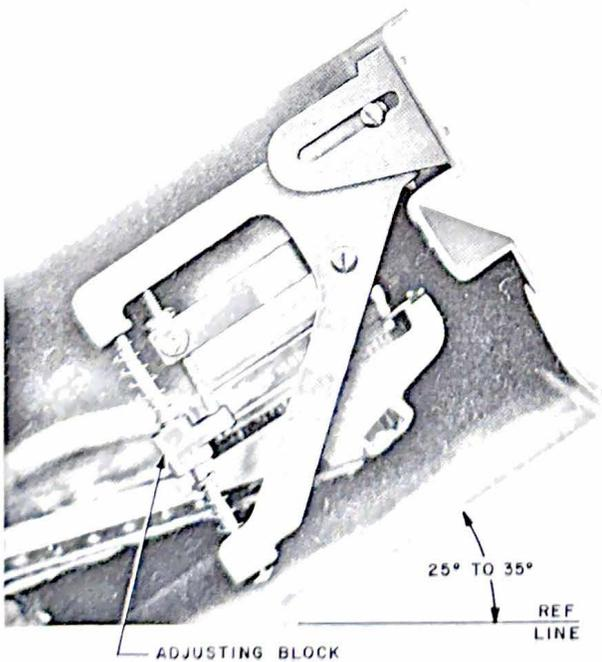

Fig. 8 - Installation at 25 to 35 Degrees
- When the mounting is installed at an angle of 25 to 35 degrees, the counterbalance should be neutralized; ie, neither upper nor lower spring exerting pressure on the adjusting block. The weight of the PIVOT BAR will control the position of the arm (Fig. 8).